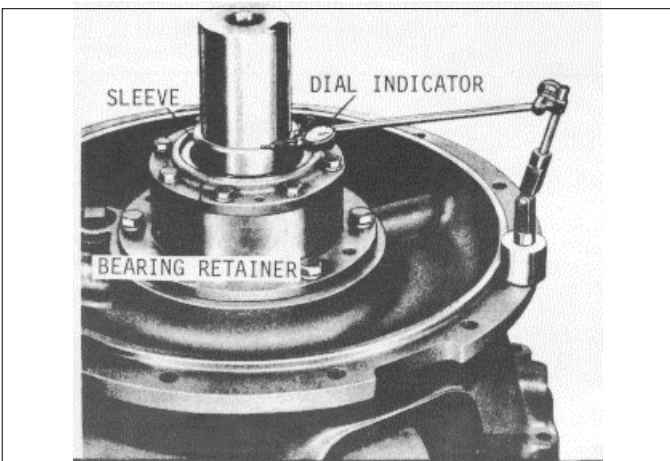

Fig. 37
- the rear end of the oil seal sleeve on the output sleeve (Fig. 37).